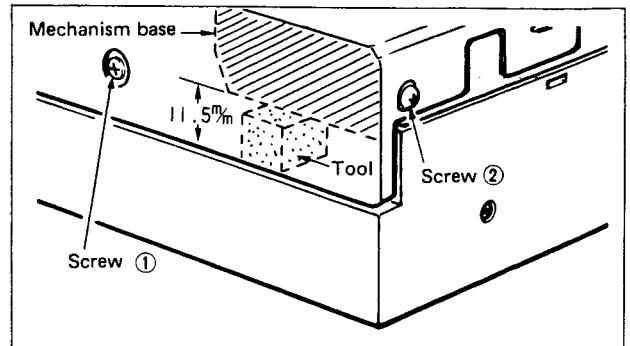

Fig. 4
- Check the standard height between the mechanism base and the cabinet. (11.5 mm: see Fig. 4)
3. Connect the voltmeter between TP501 pins ④ and ① on the control P. C. Board.
5. Then, adjust VR501 so that the voltage between TP501 pins ④ and ① is DC 4.8 V $\pm$ 0.05 V.
6. Move the tonearm back to the center, and adjust the screw in the tonearm rest part so that the voltage between TP501 pins ④ and ① is DC 1.9 V $\sim$ 2.0 V in the tonearm DOWN mode.
Check the standard height (11.5 mm; see Fig. 4) between the mechanism base and the cabinet.